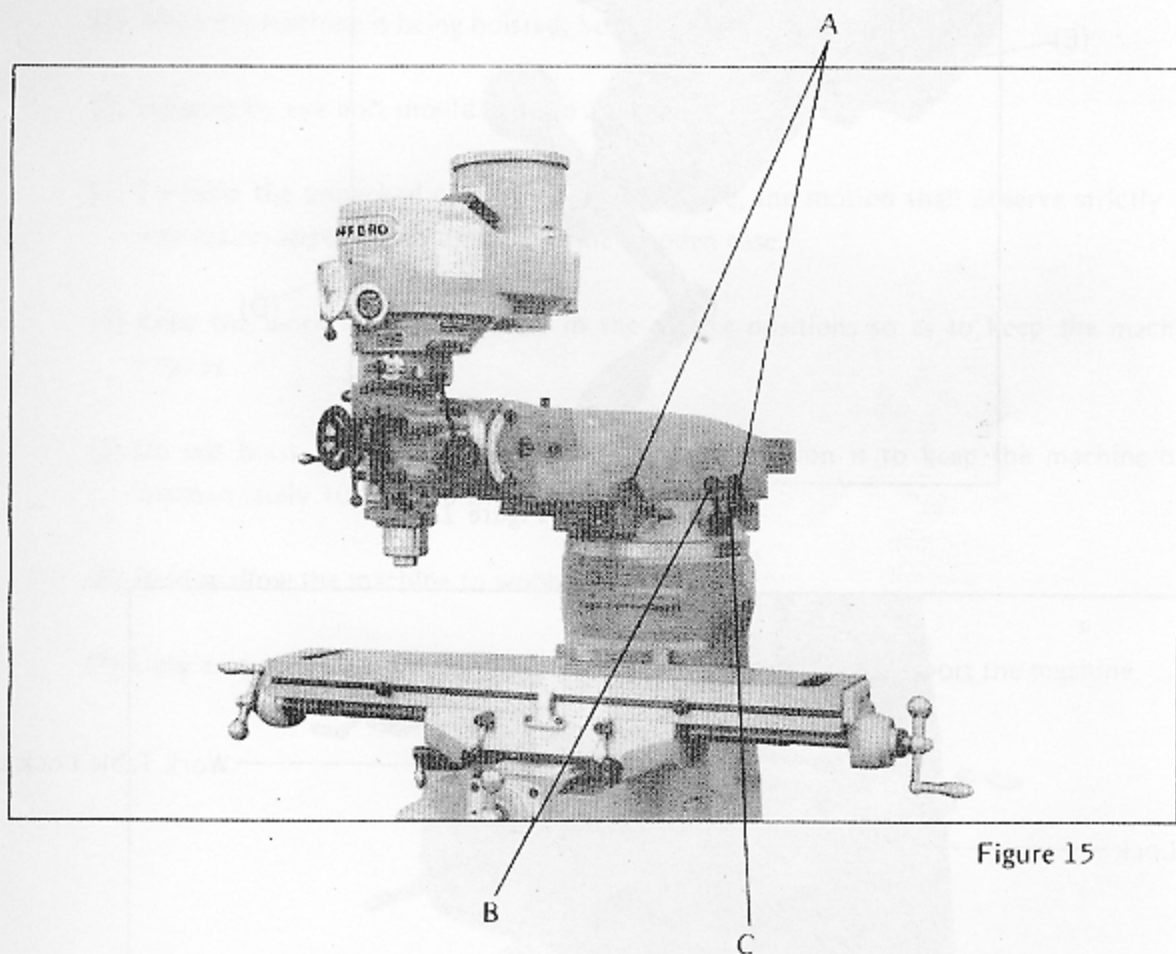

Figure 15
(1) Ram Movement and Swiveling (See Figure 15):
- a. Loosen the two Ram lock levers (A).
- b. Swivel the Ram pinion handle (B), and the Ram can be moved.
- c. When it moves to the desired position, lock up (A).